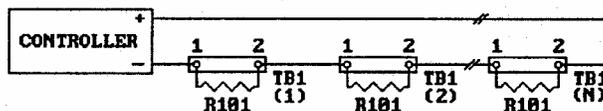

Figure 3-7. Controlling Several 1Zs Connected in Series
- a. Connect each unit as shown in Figure 3-7.